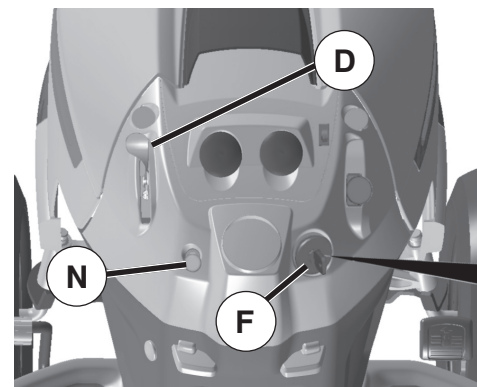

Fig. 6
TO USE THROTTLE CONTROL (D) (See Fig.6)
TO USE CHOKE CONTROL (N) (See Fig. 6)